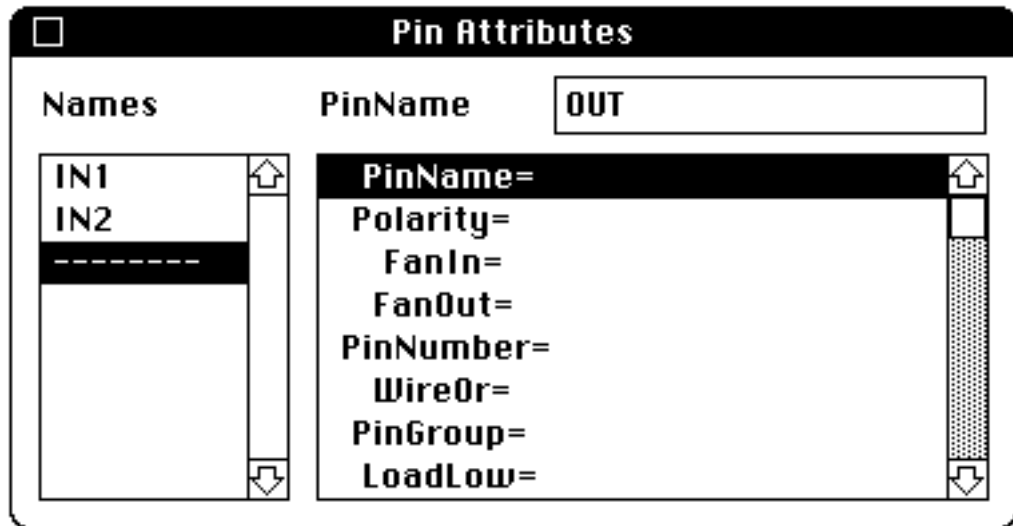

Figure 3-10 Pin Attributes Dialog Box
3. Select the PinName attribute by clicking the mouse on the PinName line in the right list box. See Figure 3-10.